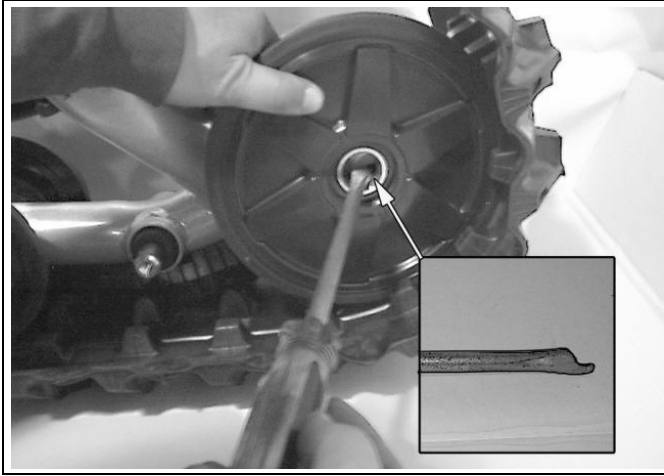

Figure 18
- If working on rear track systems, re-install the 133-mm wheels (refer to Figure 18).